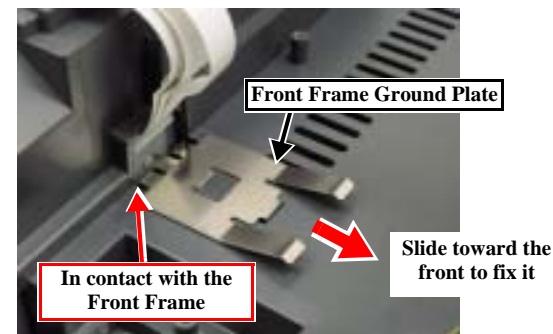

Figure 4-26. Installing the Front Frame Ground Plate
5. Install the Front Frame Ground Plate on the Middle Housing. (Fig. 4-26)